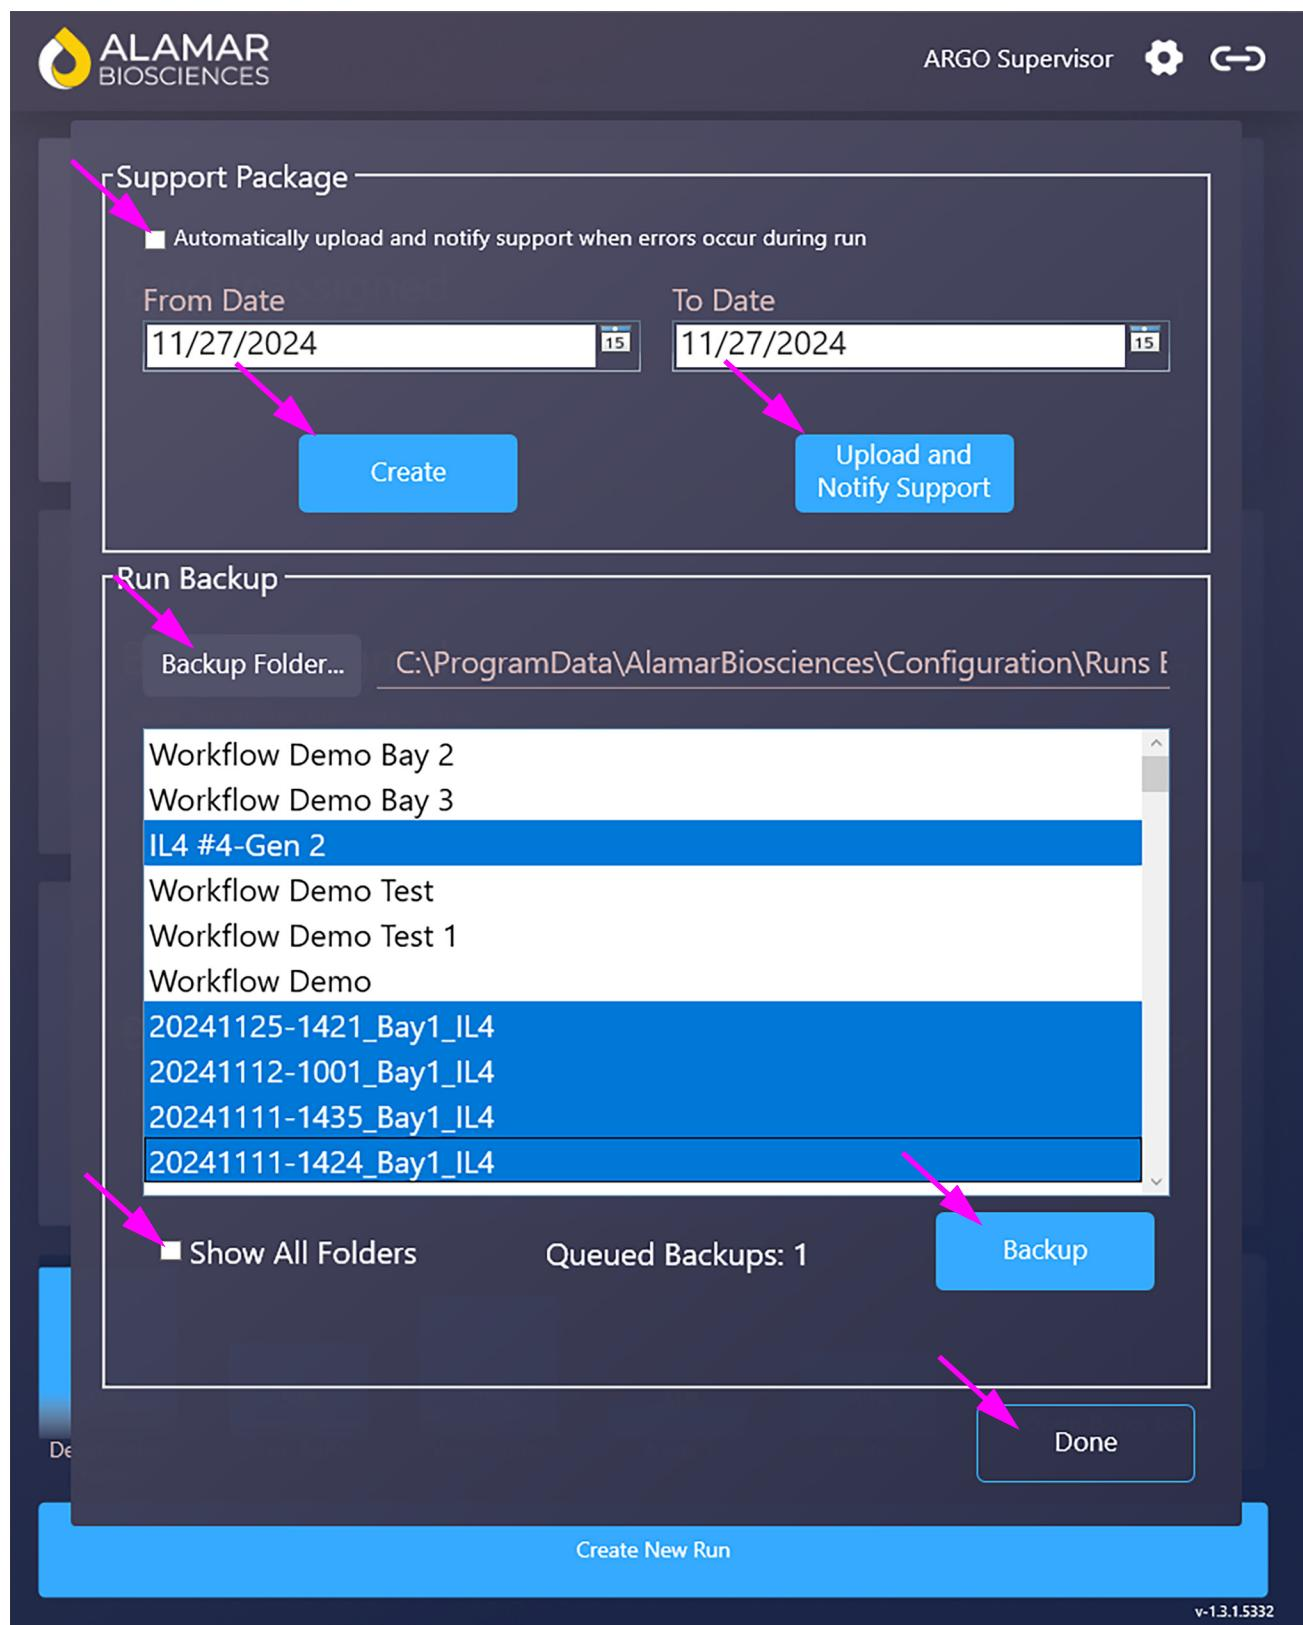

Figure 8-15. Support Package and Run Backup Windows
3. On the Menu Items Drop-down, select **Support**. The Support Package and Run Backup windows will be displayed. See Figure 8-15.